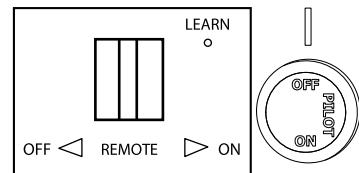

Fig. 26 - Receiver & Control Knob
2. Set receiver switch to "ON" position (See Fig. 26).
3. Turn control knob clockwise ↘ to the "OFF" position (See Fig. 26).
4. Wait five (5) minutes to clear out any gas. Then smell for gas, including near the floor. If you smell gas, STOP! Follow "B" in the safety information as noted above. If you don't smell gas, go to the next step.
5. Push in slightly and turn control knob counterclockwise ↗ to the "PILOT" position (See Fig. 26). Depress control knob.